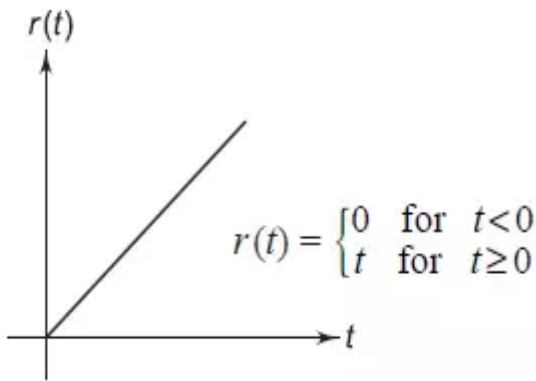
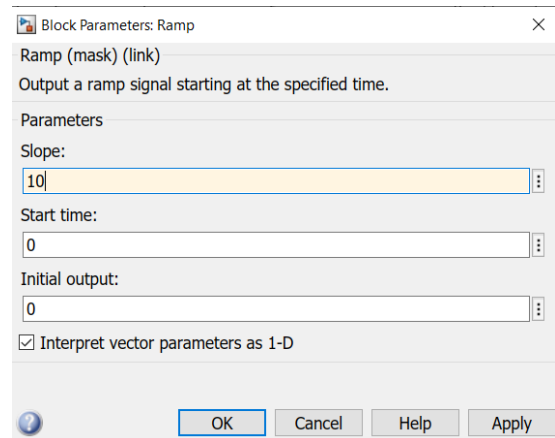

Figure 4: Ramp Function
Figure 5: Settings of Ramp
The ramp function is defined as seen in **Figure 4**. Physically, it refers to an entry sign that is gradually time dependent. You are asked to make 10 slope from the settings shown in **Figure 5** by double clicking on the ramp function.
- The reason why the motor starts up after a certain time is because the motor has a certain dead zone. It shown in **Figure 5**. The engine will not run in this dead zone. Find the opening rpm of the motor according to the previous step. According to this value, find and write how many pwm's the motor opens and after what voltage.